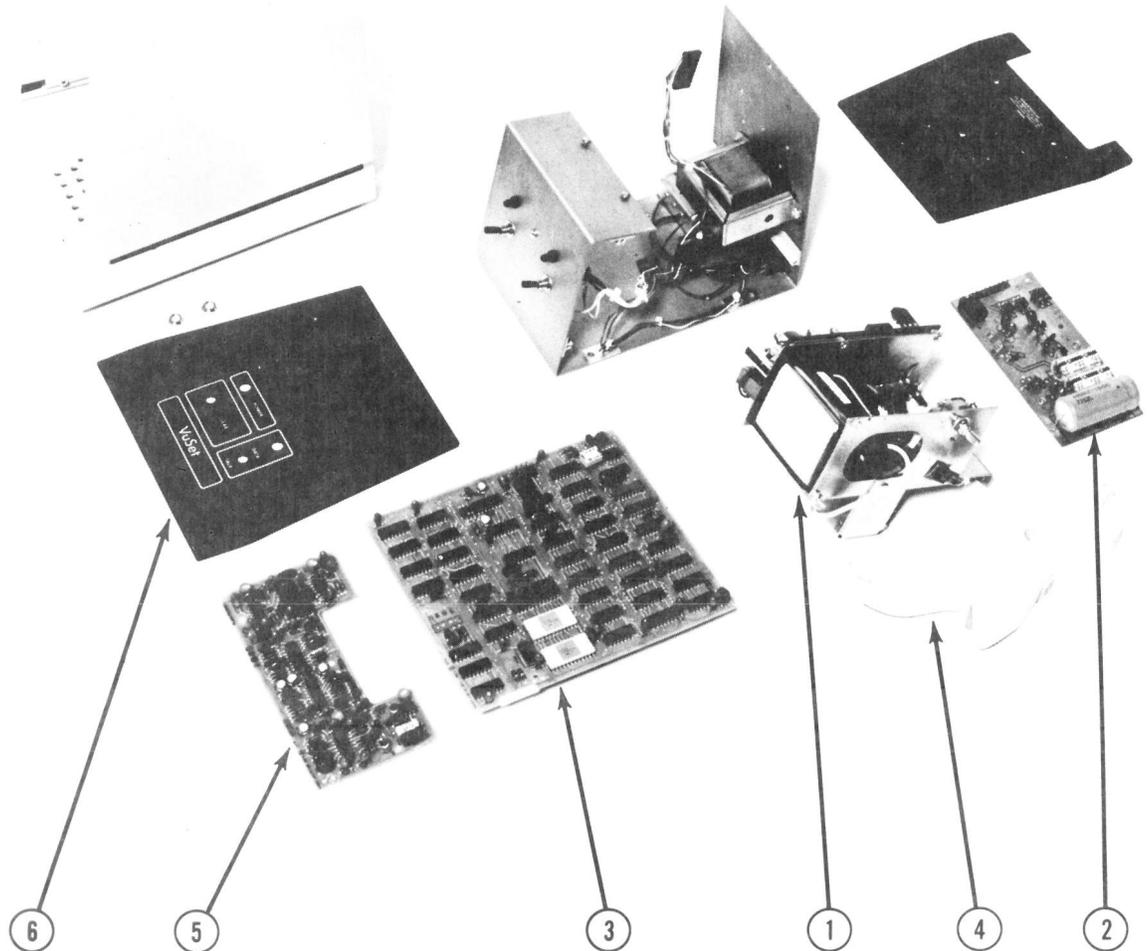

Figure 29, Disassembled Terminal
7.01 Figure 29 is a pictorial description of the replaceable subassemblies. The following table indicates the Plantronics part number, description and reference number of Figure 29 for these subassemblies: